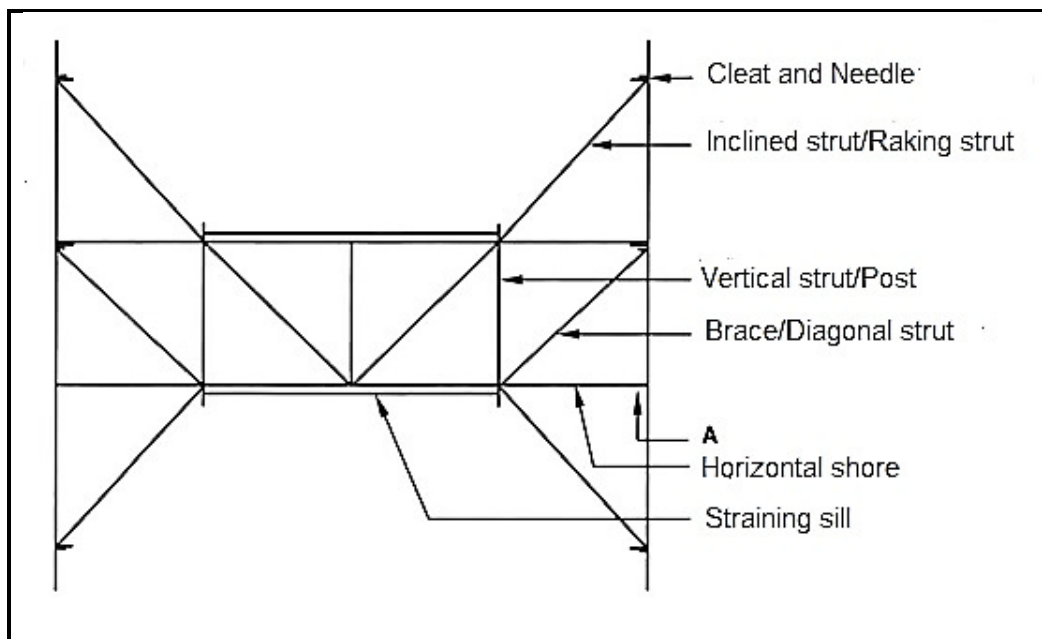

FIGURE 5.3
- 5.3 FIGURE 5.3 below shows a line diagram of a shore. Analyse the drawing and answer the questions that follow.